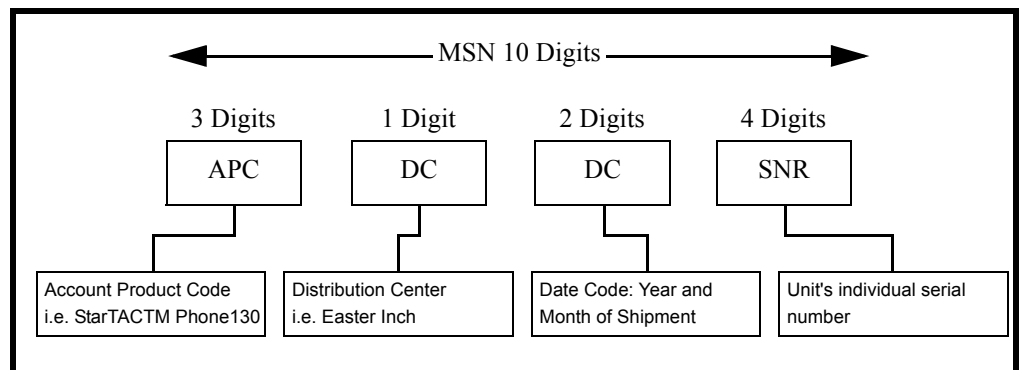

Figure 26. MSN Label Breakdown
- The MSN is divided into 4 sections as shown in Figure 26.